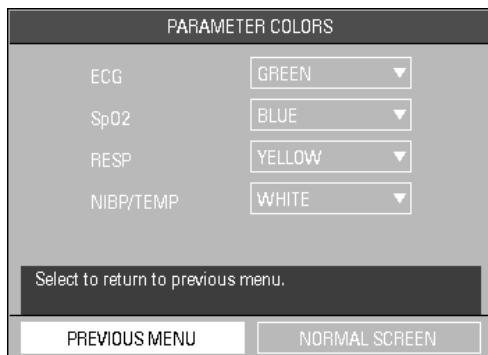

FIGURE 2-11 Parameter Colors Menu
1. Select **PARAMETER COLORS** from the **MONITOR SETUP** menu. The **PARAMETER COLORS** menu (FIGURE 2-11) is displayed. From this menu, the colors for displayed parameters can be selected. The numeric and waveform data for each parameter displays in the same color, as selected by the user. The color choices are: **GREEN**, **RED**, **YELLOW**, **BLUE**, and **WHITE**.